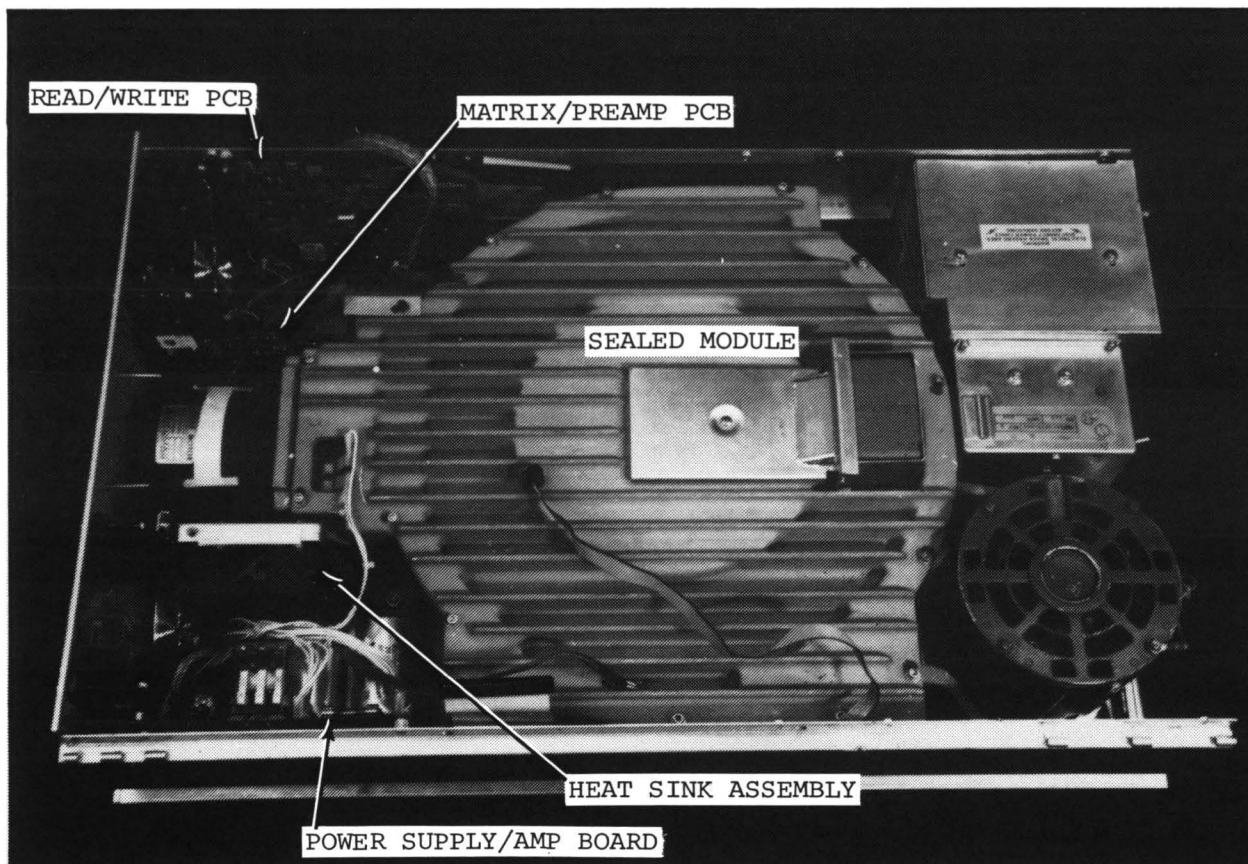

Figure 3. Reflex I Components
- Power Supply/Amp Board (See Fig. 3)
- Sealed Module (See Fig. 3)
- Matrix/Preamp PCB (See Fig. 3)
- Read/Write PCB (See Fig. 3)
- Heat Sink Assembly (See Fig. 3)